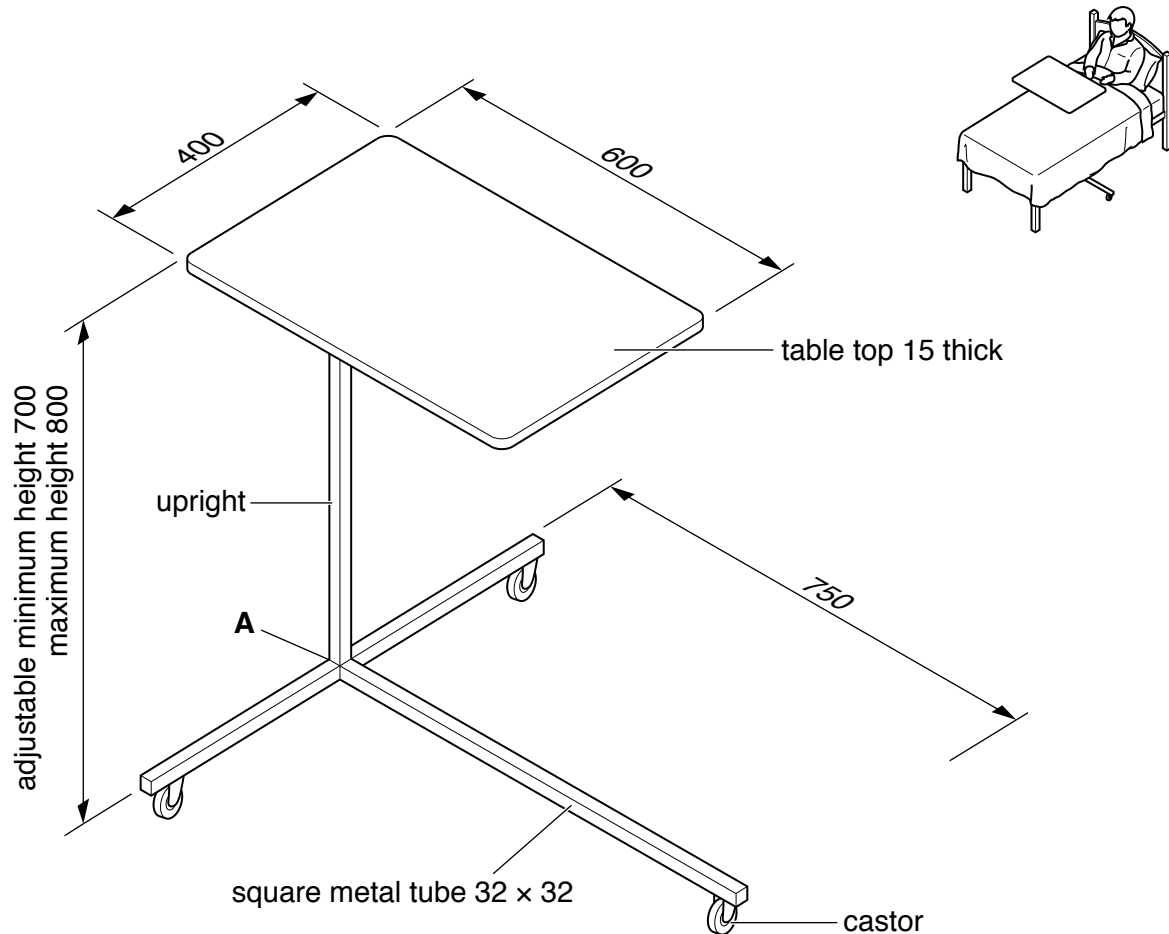

Fig. 11.1
- 11 Fig. 11.1 shows a bedside table. The height of the bedside table can be adjusted. The table top is made from veneered manufactured board and the legs and upright from square metal tube.